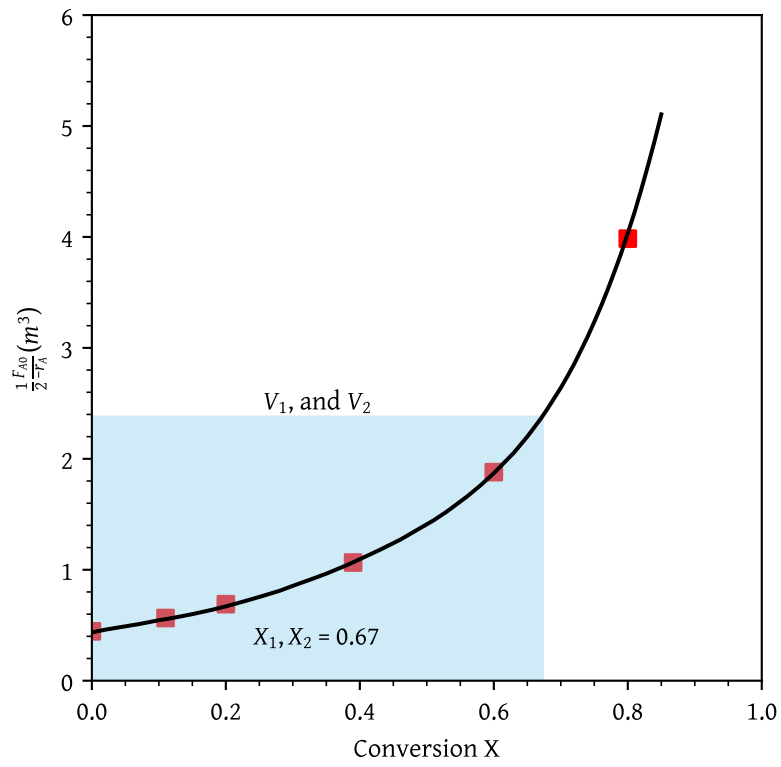

Figure 5: Conversion from two CSTR in parallel
- (c) Two CSTRs in parallel with the feed,  $F_{A0}$ , divided equally between the two reactors (Figure 5).